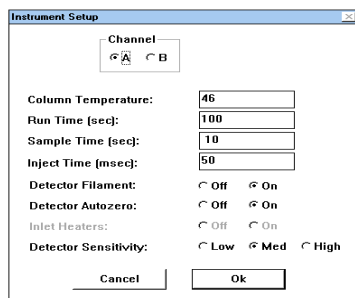

Figure 22 Instrument setup window
2. Select the **Instrument Setup** command under the **Method** menu. A window will be displayed which lists the chromatograph instrument settings from the last stored Method (See Figure 22).
3. Increase the temperature settings by 10 degrees for channels A and B. To do this, click on channel A in the instrument setup window shown in Figure 22. Instrument settings for channel A should appear on the screen. Click on the “Column Temperature” box and enter a value 10 degrees higher than that shown. The settings for channel B are displayed by clicking the cursor in the small circle labeled B at the top of the instrument status window.